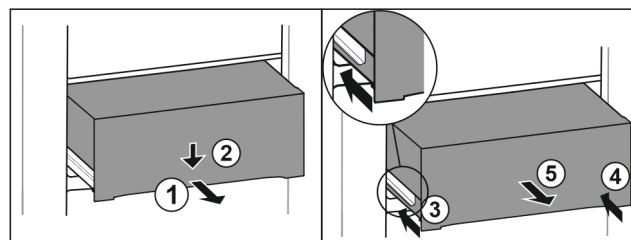

Fig. 98
- ▶ Pull out the drawer halfway. Fig. 98 (1)
- ▶ Press down the drawer on the front. Fig. 98 (2)
- ▶ Push in the left rail approximately 2 cm (13/16 in). Fig. 98 (3)
- ▶ Push in the right rail approximately 2 cm (13/16 in). *Fig. 98 (4)*
- ▶ Remove drawer to the front. *Fig. 98 (5)*